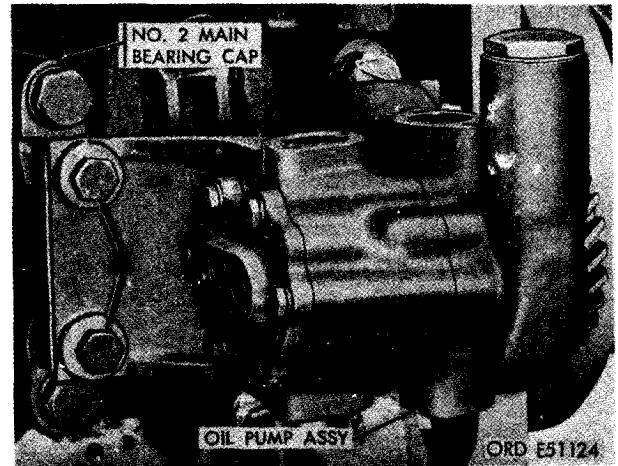

FIGURE 282. DISCONNECTING OR CONNECTING OIL PUMP AT NO. 2 MAIN BEARING CAP.
- (2) Figure 282. (A) Remove two 7/16 x 1 hexagon head bolts securing oil pump to No. 2 front intermediate main bearing cap. (B) Remove oil pump assembly.